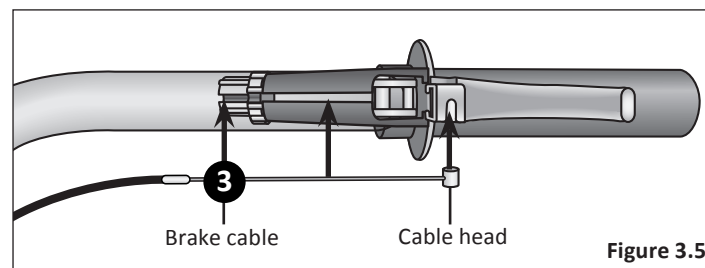

Figure 3.5
- 3 Slide the brake cable through the slots and place the cable head into the brake lever. **Figure 3.5**